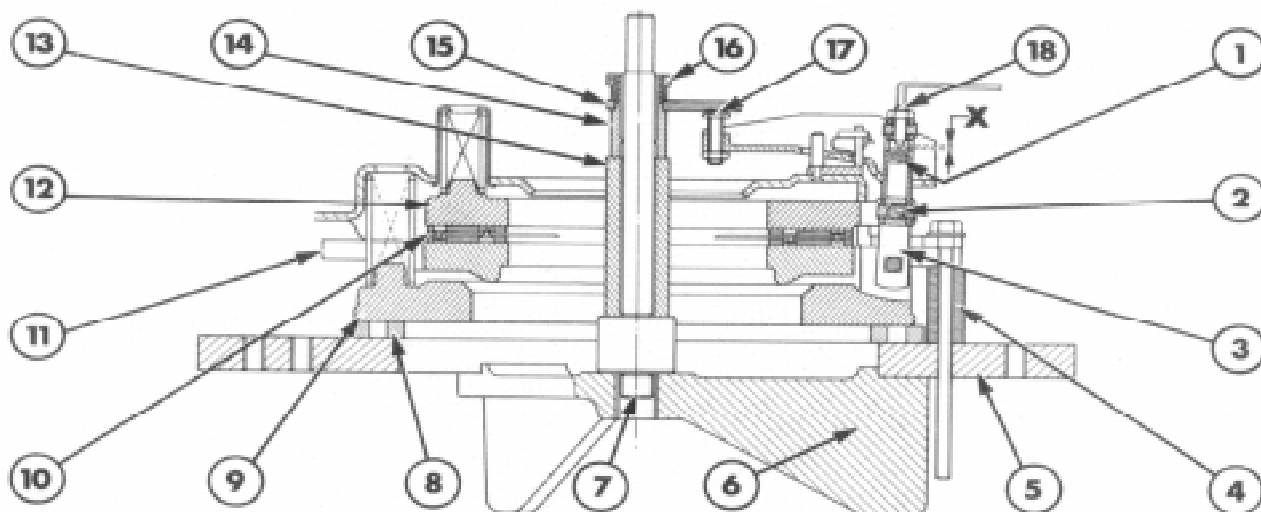

Figure 13
With reference to Figure 13.
Locate the transmission pressure plate on the spacers with the smooth surface of the plate facing downwards, Figure 13.
3. Hold the pressure plate connecting link centrally and use the shank of a suitable size drill as a gauge to set the gap 'X' between the lower end of each socket headed adjusting screw and the corresponding connecting link strut, Figure 13. For dimension 'X' see "Specifications".